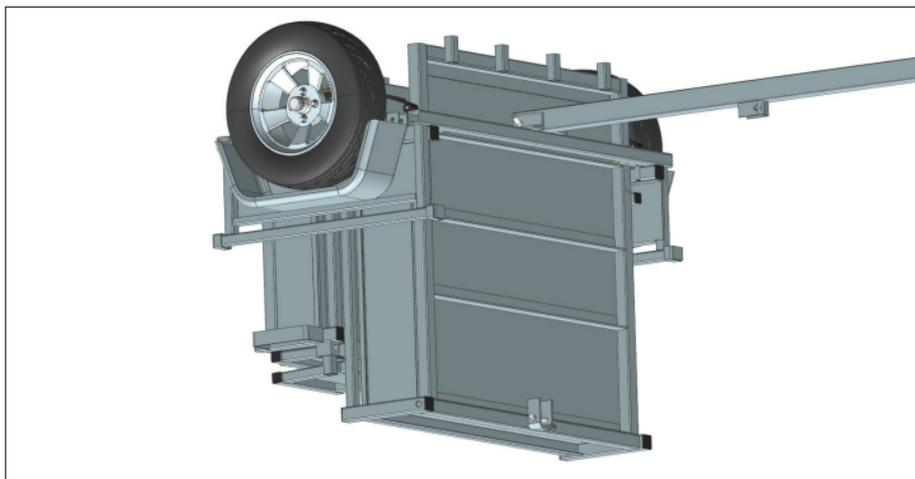

Figure 10: Close the front section
- 3.5. As you did when closing the rear section, put the hitch pins in their corresponding storage location. Fig. 10